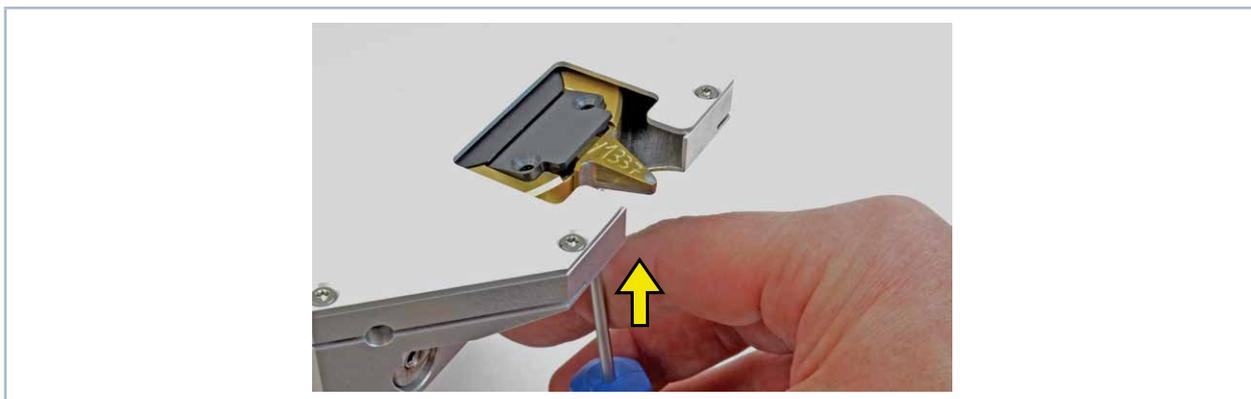

Fig. 18.2: Pushing out the measuring tip
5. Carefully push the measuring tip and retaining plate upwards through the housing bore using a screwdriver (see Fig. 18.2 on page 52).